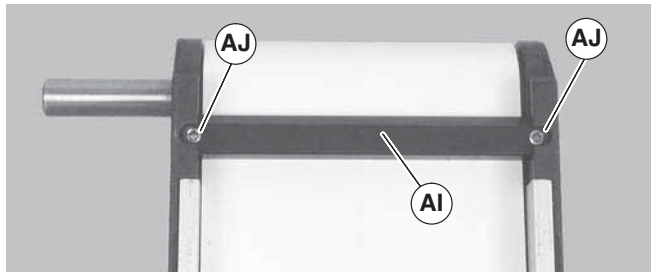

Figure 18
1. If equipped, remove bottom wipers (Figure 18, item AI): Remove fastening screws (AJ) then remove wiper (AI).